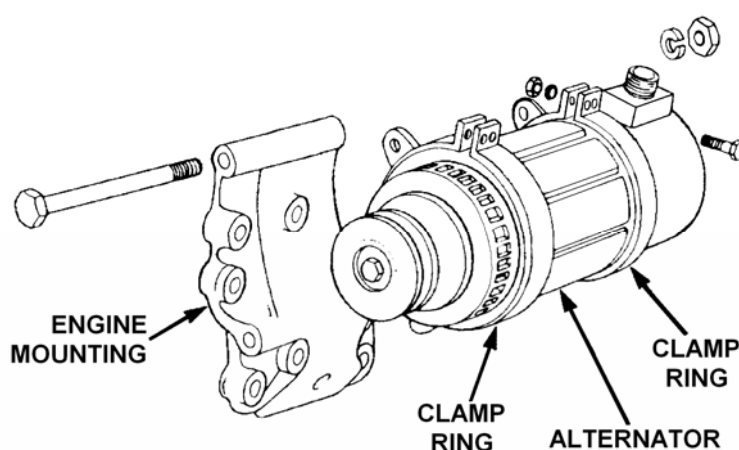

Figure 9 Auxiliary Alternator Clamp Rings and Engine Mount Arrangement
- (1) Loosely fit two M8 x 50 mm clamp bolts (Table 1, Item 29), 8 mm lock washers (Table 1, Item 20) and M8 nuts (Table 1, Item 30) to each alternator clamp ring (Table 1, Item 28) and position them on the alternator assembly (Table 1, Item 27) ready for mounting onto the left-hand engine mount bracket as shown in Figure 9.